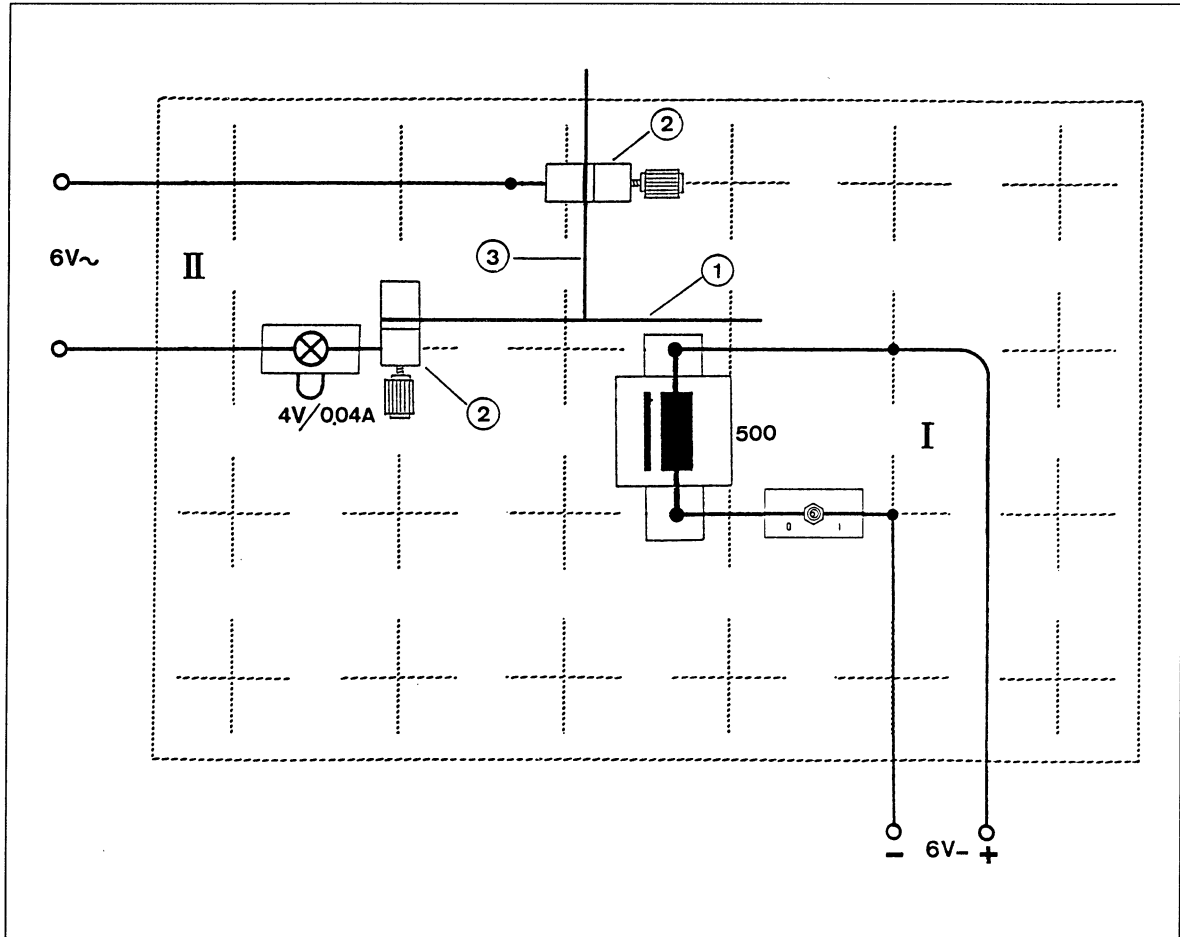

Fig. 3 Experiment setup (top view): model of a tripping relay
7. Set up the circuit as shown in Fig. 3. Make sure the switch is set to position 0.
10. Draw the circuit diagram of the tripping relay from Fig. 3. For comparison ► Fig. 2.